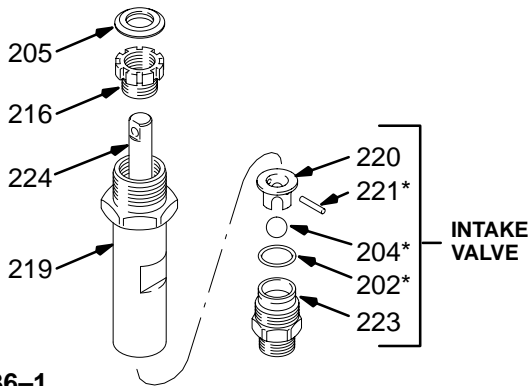

Fig 36-1
2. Unscrew the intake valve (223) from the cylinder (219). Remove all parts. See Fig 36-1.
4. Remove the packing nut (216) and plug (205). See Fig 36-1.
5. Use a plastic mallet to tap the piston rod (224) down, then pull the rod out through the bottom of the cylinder (219). See Fig 36-1.